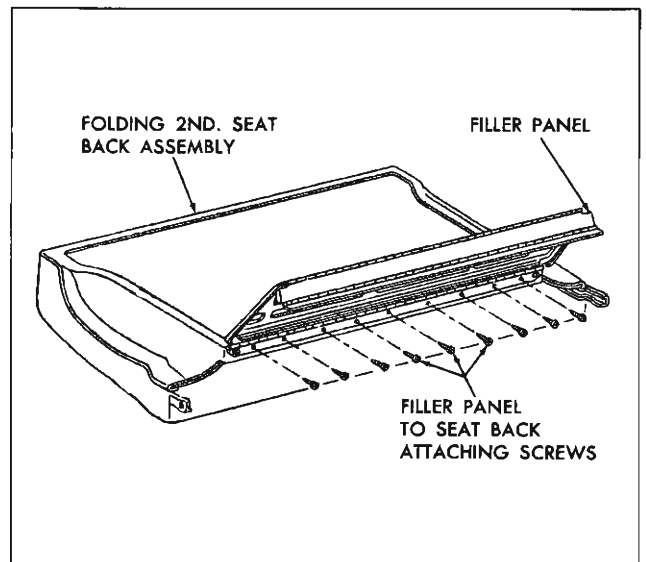

Fig. 8-5 Second Seat Floor Panel
NOTE: When necessary to remove filler panel from seat back, as a bench operation, fold filler panel as shown in Figure 8-5 and remove screws which secure filler panel to seat back panel.
3. Fold panel forward sufficiently to remove screws which secure panel to folding 2nd seat back and remove panel from body (Fig. 8-5).